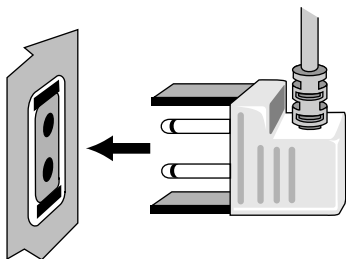

Figure 16. Connect screening cable and test stimulator.
3. Verify that the test stimulator output (Amplitude) is turned to Off, then push the plug on the test stimulator end of the cable into the output jack of the test stimulator (Figure 16). Refer to the Model 3625 Test Stimulator Operator Manual for detailed instructions on utilization.